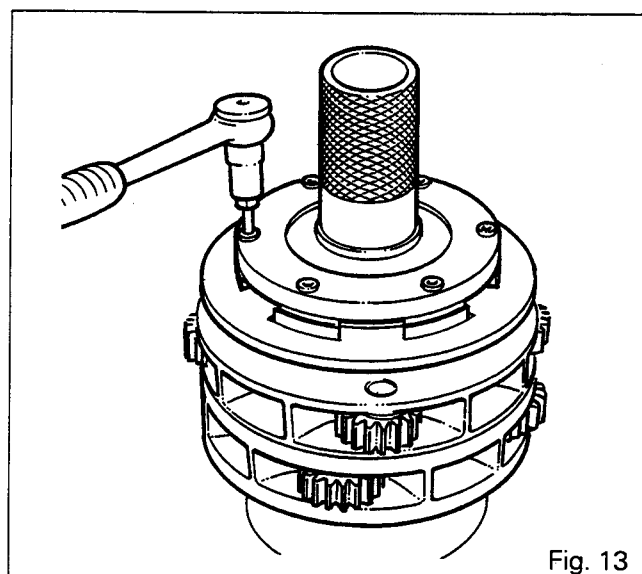
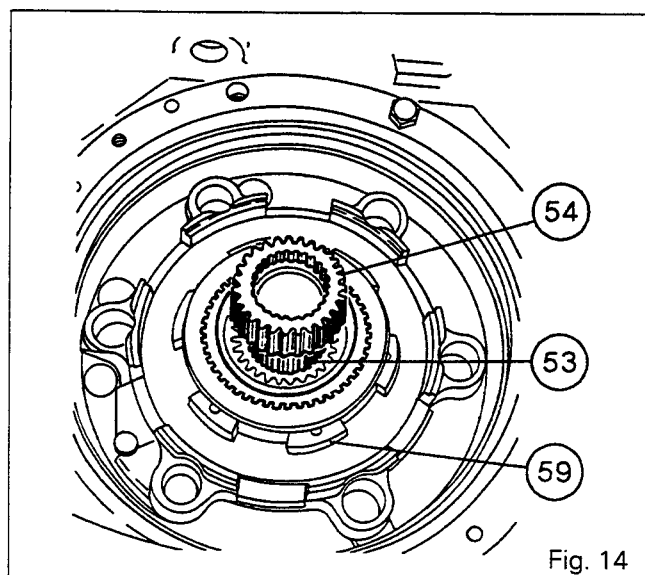

Fig. 13
Fig. 14
41. Centre the rear clutch housing assembly (59) with tool 3376887M1 (Fig. 13). Coat the bolts (46) with Loctite 241 and tighten them to a torque of 13 to 15 Nm. Remove the tool. Separate the housing assembly from the planetary carriers.
42. Coat the thrust washer (51) with miscible grease and position it on the cover (47).
43. Fit a brake disc (41) in the housing /42\.
44. Position the rear clutch housing (59) and the thrust washer (51) on the secondary shaft (53). Fit the hub (54), with its internal splines facing upwards (Fig. 14).
45. Position the other two brake discs (41), separated by the pressure plate (44).